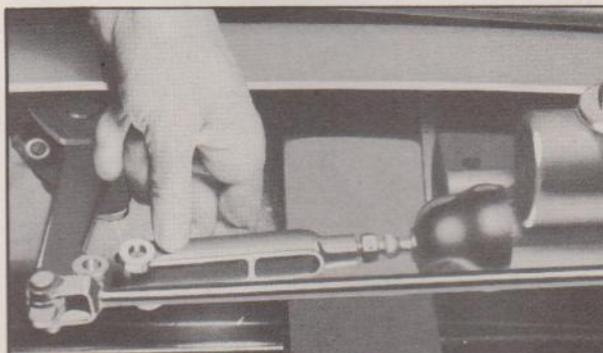

Fig. 11—Adjusting Pedal Toe-Board Clearance
- Remove clevis pin and turn the clevis attached to the main cylinder push rod, Fig. 11, in the proper direction to secure $\frac{1}{4}$ " toe-board clearance—measurement being taken between pedal arm and underside of toe-pan.